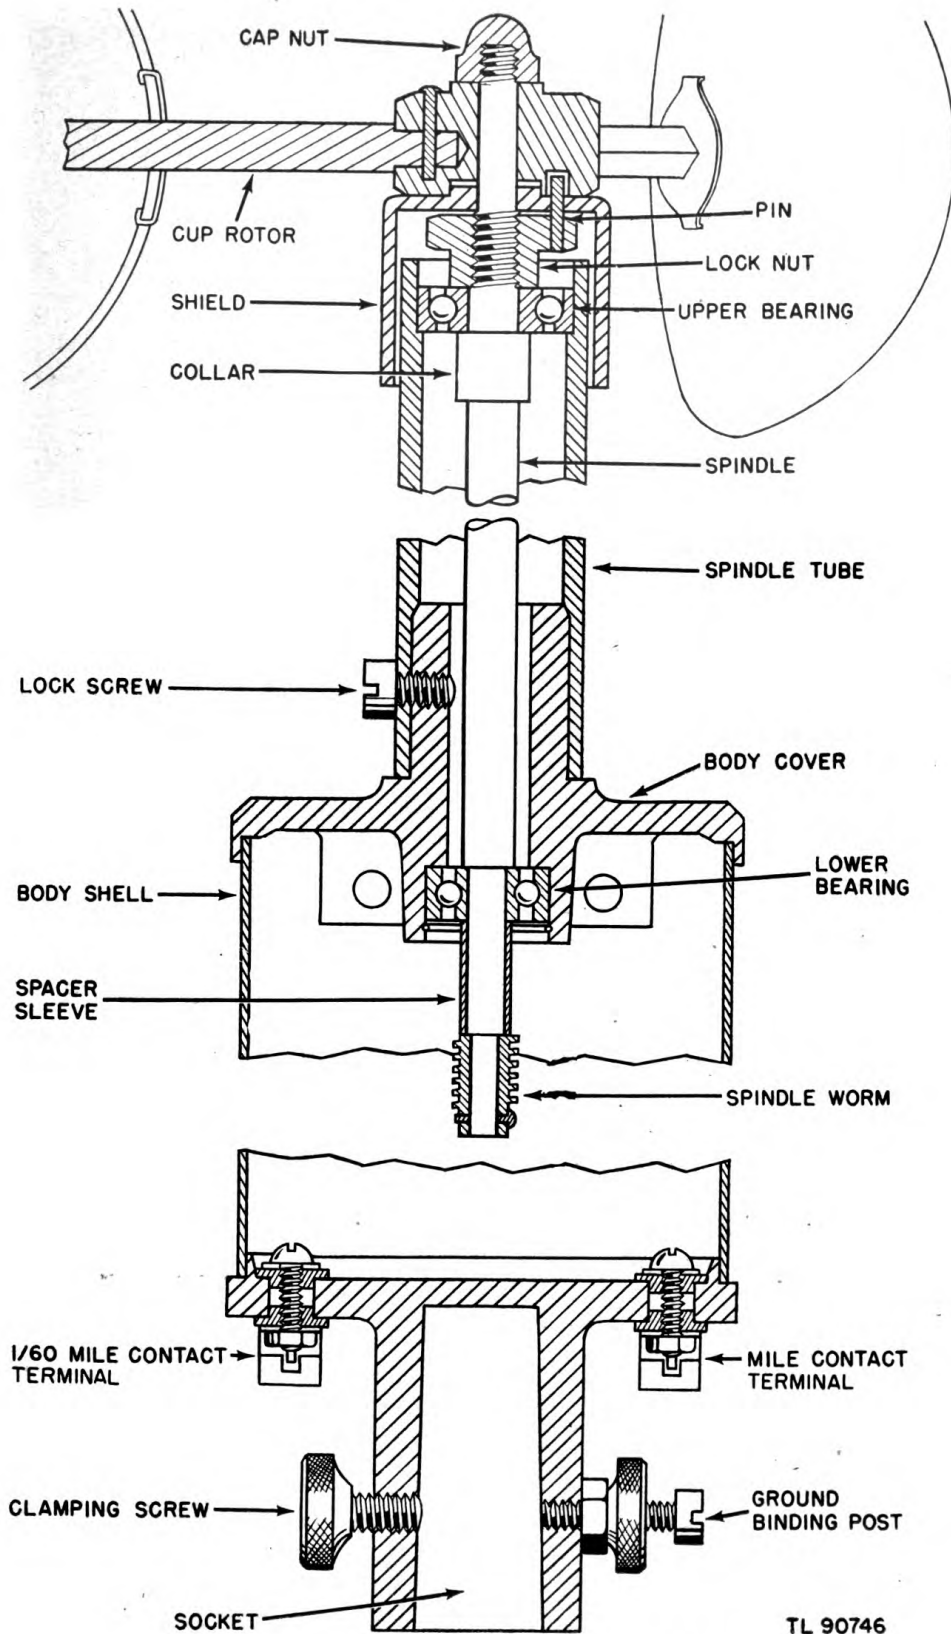

Figure 21. Anemometer ML-80-A, cross-section view.
f. Adjusting contacts. (1) Use the adjusting screw at the lower end of each contact arm.
- (2) Adjust each space between contacts to be within $\frac{1}{32}$ inch in the open position.
42. OVERHAULING ANEMOMETER ML-80-A (fig. 21). **a. Time.** Overhaul Anemometer ML-80-A once a year, or sooner if the routine inspection indicates need for it.
b. Disassembly. (1) Remove the cap nut from the end of the spindle, and lift off the cup rotor and dust cap.